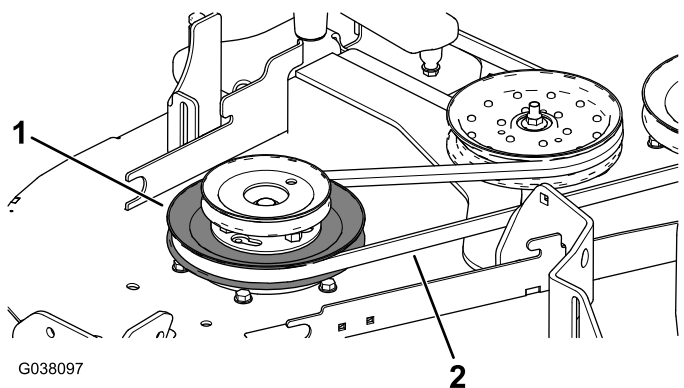

Figure 13
6. Install the mower belt around the lower pulley of the double pulley (Figure 13).